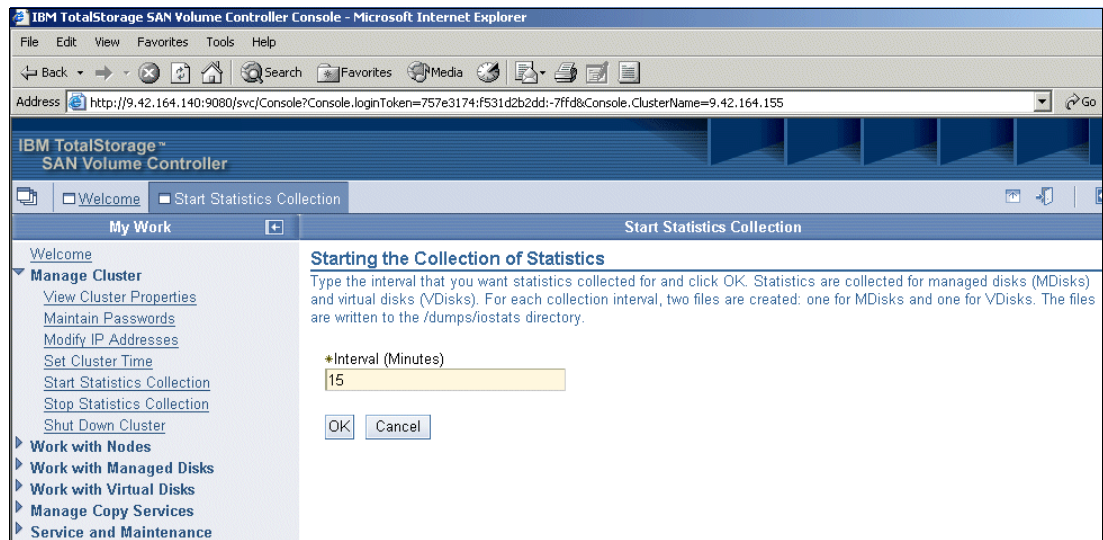

Figure 9-13 Starting collection of statistics
2. The Starting the Collection of Statistics panel (Figure 9-13) opens. Make an interval change, if desired. The interval you specify (minimum 15, maximum 60) is in minutes. Click **OK**.